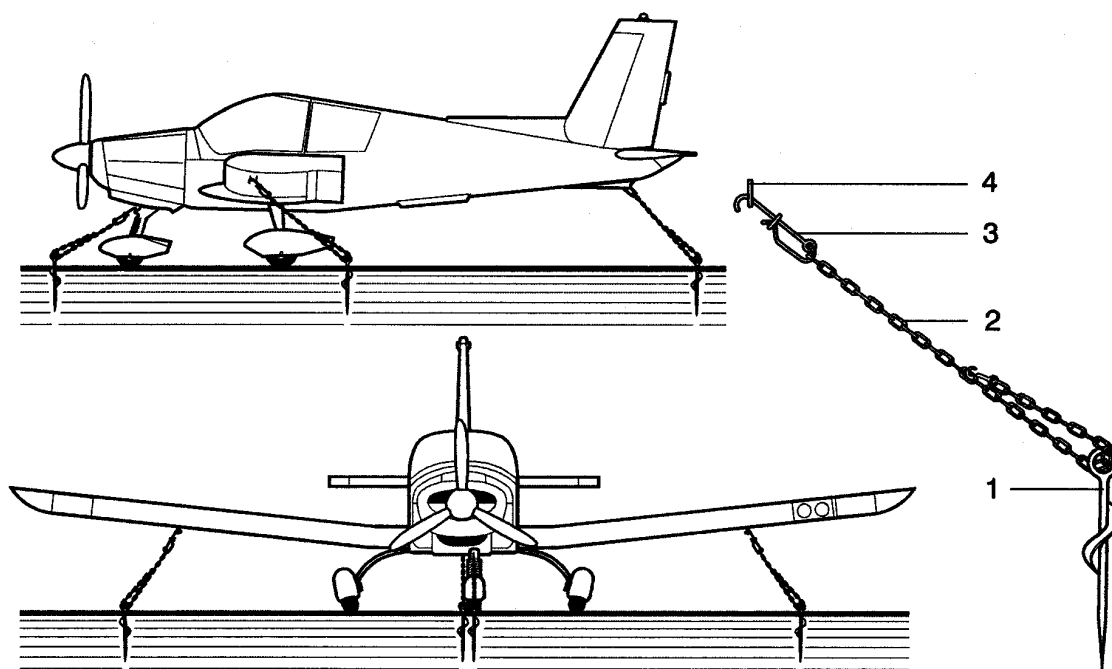

Fig. 8-1 Aircraft Anchoring
- 4) Anchor the aircraft using ropes or chains acc. to the Fig. 8-1 inserted into the rings provided on the bottom side of the wings and on the nose landing gear to the anchoring points. Use tow-hook on the fuselage rear part or tail skid as a complementary anchoring point if necessary.